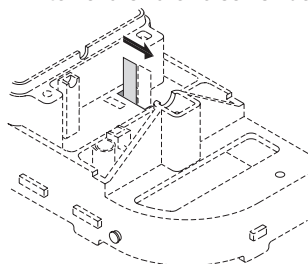

Figure 20
8. The metal ratchet tab slides out of its slot sideways; replace it by removing the center brushes and sliding in a new ratchet tab until it is flush with the edge of plastic holder (**Figures 20 and 21**). Replace the center brushes.